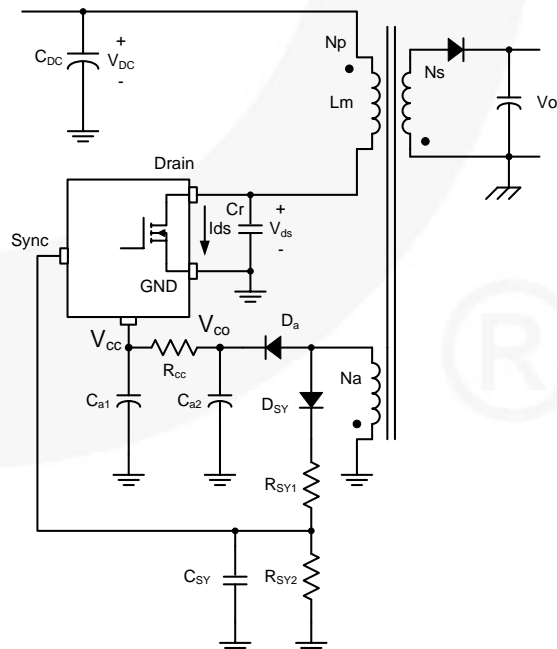
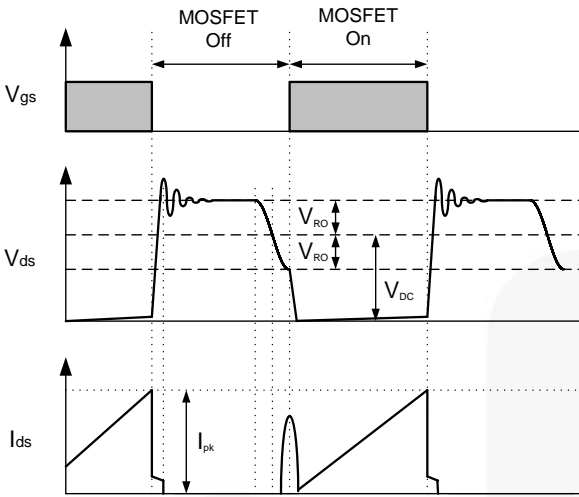
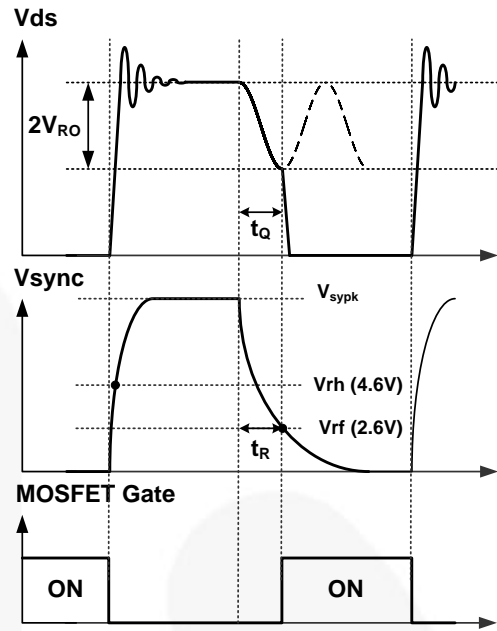

Figure 27. Synchronization Circuit
Figure 28. Quasi-Resonant Operation Waveforms
Figure 29. Normal QR Operation Waveforms
2. Synchronization: The FSCQ series employs a quasi-resonant switching technique to minimize the switching noise and loss. In this technique, a capacitor (C_r) is added between the MOSFET drain and the source, as shown in Figure 27. The basic waveforms of the quasi-resonant converter are shown in Figure 28. The external capacitor lowers the rising slope of the drain voltage to reduce the EMI caused when the MOSFET turns off. To minimize the MOSFET's switching loss, the MOSFET should be turned on when the drain voltage reaches its minimum value, as shown in Figure 28.
The minimum drain voltage is indirectly detected by monitoring the V_{CC} winding voltage, as shown in Figure 27 and Figure 29. Choose voltage dividers, R_{SY1} and R_{SY2} , so that the peak voltage of the sync signal (V_{sync}) is lower than the OVP voltage (12 V) to avoid triggering OVP in normal operation. It is typical to set V_{sync} to be lower than OVP voltage by 3–4 V. To detect the optimum time to turn on MOSFET, the sync capacitor (C_{SY}) should be determined so that t_R is the same with t_Q , as shown in Figure 29. The t_R and t_Q are given as: